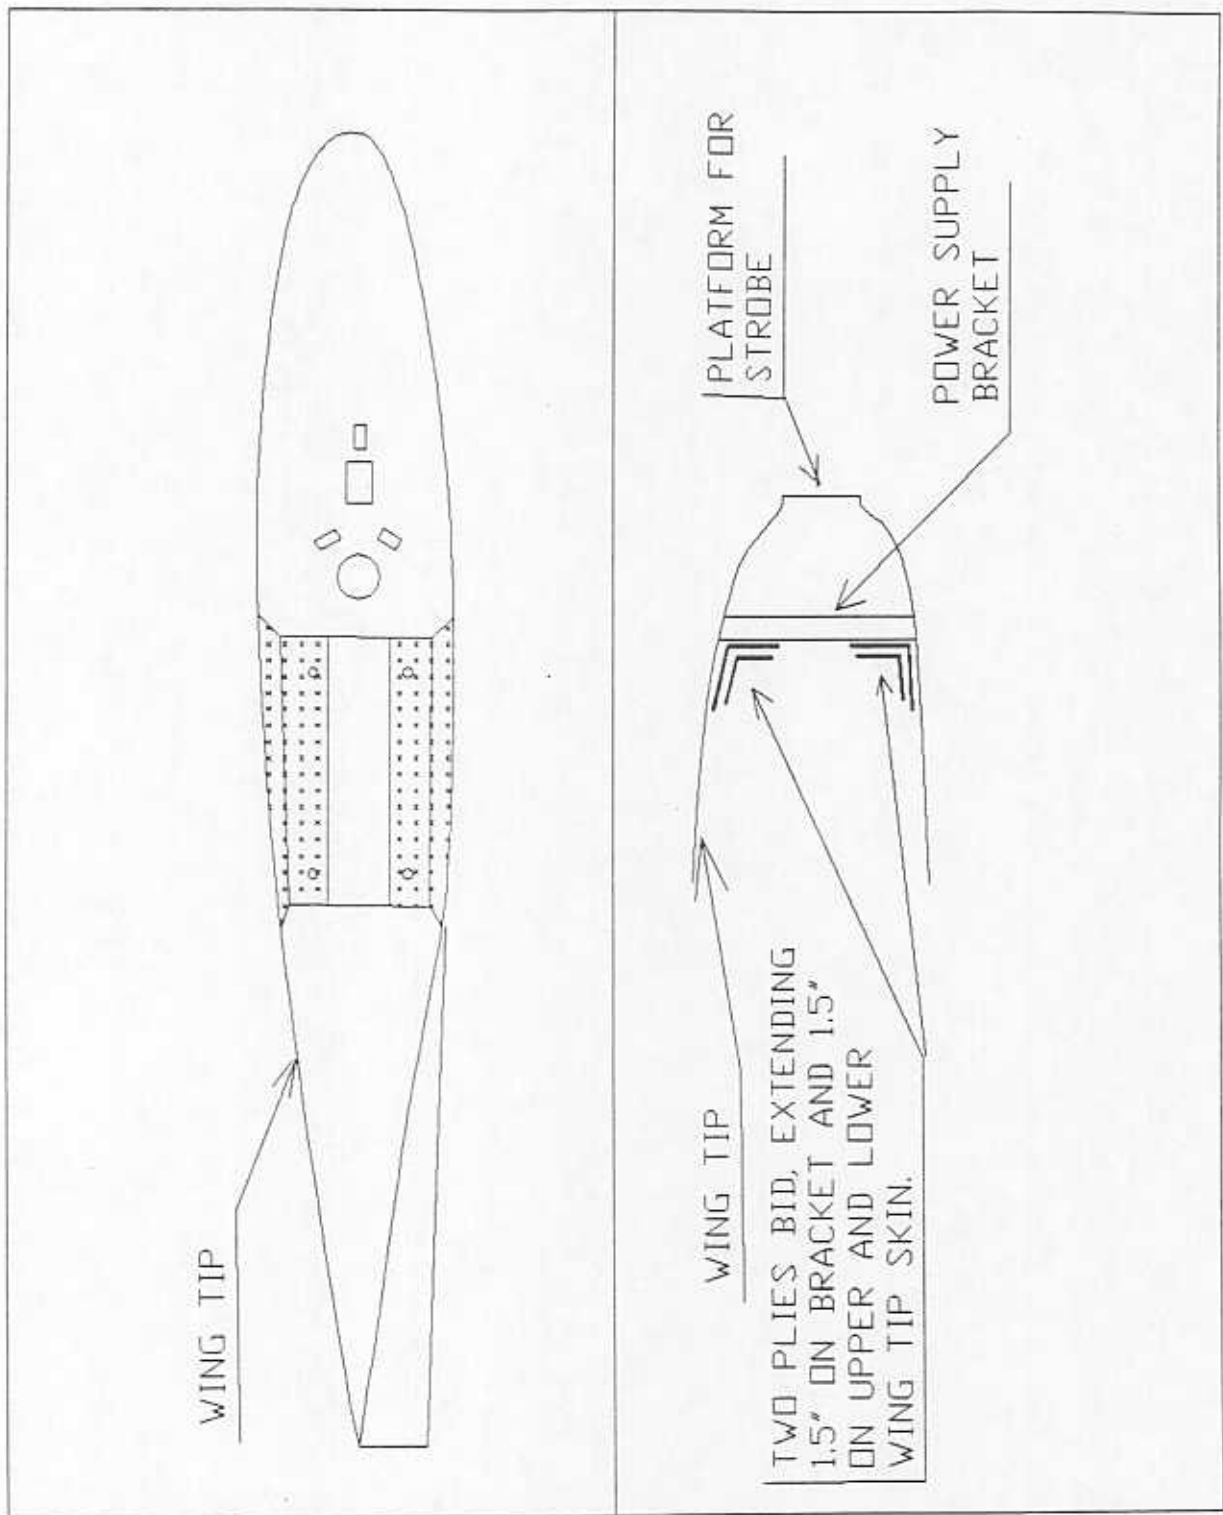

FIGURE 7.110-4
Remove power supply, laminate bracket as indicated by Figure 7.110-4, with two (2) plies of 45 deg. BID, extending 1.5" into the wing tip skin, and 1.5" onto the bracket.